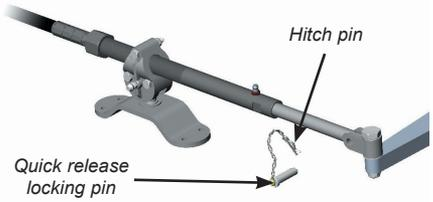

Fig B43 - Attaching the steering cable to the tiller
- ii) Position the steering cable rod end into the clevis bracket (Fig B43).